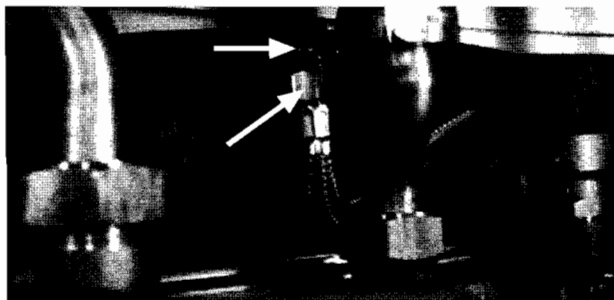

Figure 46
- ☐ Disconnect the pipe coupling on expansion vessel (*figure 46*).